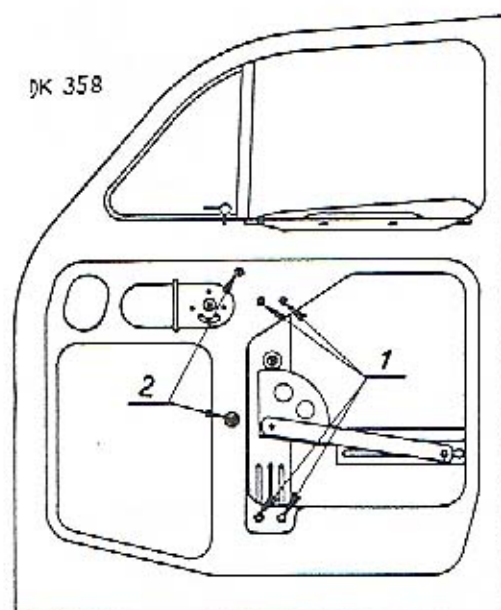

Fig. 33. Removing Drop Window
- Slacken the screws of the window winder or regulator 1, take out the winder, lower the window into bottom position, ease the moulding of the vent window by unscrewing the screw 2, force off the moulding and withdraw the glass pane through the aperture in the centre of the door sheet panel, as shown in Fig. 33.